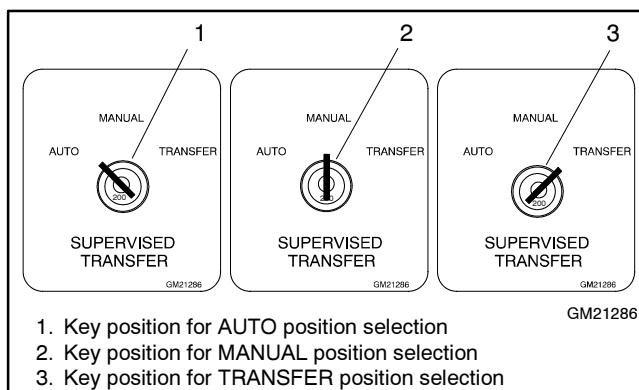

Figure 7 Supervised Transfer Control Switch Key Positions
- 2.8 Verify that the key positions correspond to the decal AUTO, MANUAL, and TRANSFER positions. Rotate the operator assembly as necessary. See Figure 7.